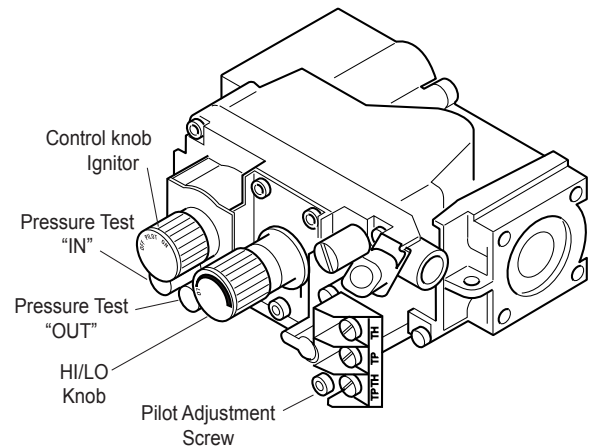

Figure 34 - Gas Pressure Check at Gas Valve
4. To check gas pressures at valve, turn captured screw counter clockwise 2 or 3 turns and then place tubing to pressure gauge over test point. See Figure 34. After taking pressure reading, be sure and turn captured screw clockwise firmly to reseal. Do not over torque. Check test points for gas leaks.